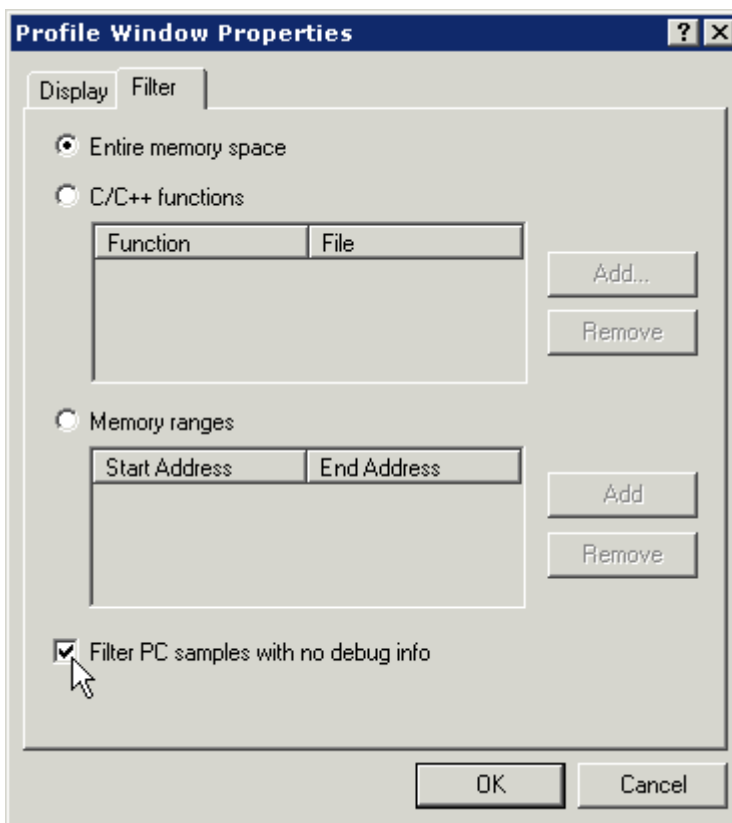

Figure 2-34. Filtering Samples With No Debug Information
3. Right-click in the **Linear Profiling Results** window and choose **Properties** to open the **Profile Window Properties** dialog box. Then click the **Filter** tab to display the **Filter** page, shown in Figure 2-34.